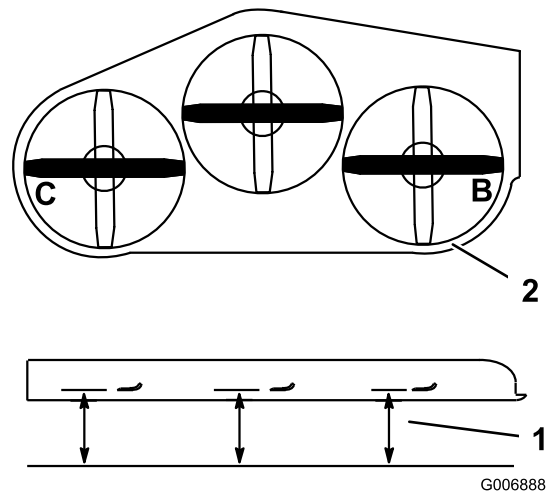

Figure 74
1. Position the **right** blade side-to-side (Figure 74).
2. Measure the right blade at the **B** location, from a level surface to the cutting edge of the blade tip (Figure 74).
4. Position the left blade side-to-side (Figure 74).
5. Measure the left blade at the **C** location (Figure 74), from a level surface to the cutting edge of the blade tip.